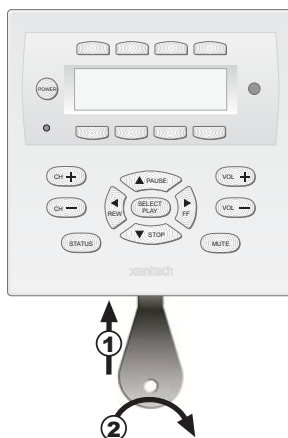

Figure 9 – Removing the MRC88m Keypad from the wall
1. Insert the MRC88m keypad removal tool into the slot at the bottom of the keypad, as shown in **Figure 9**, being sure that the tool is inserted so that the “insert to here” line slides under the Keypad. This will reduce the risk of damage to the Keypad or the wall.